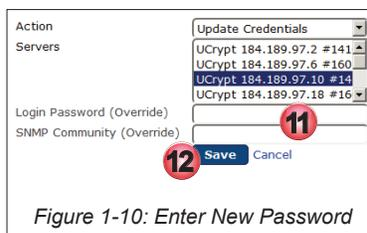

Figure 1-10: Enter New Password
- In the dialog, enter the correct **Master Password** for this UCrypt Device, Figure 1-10.